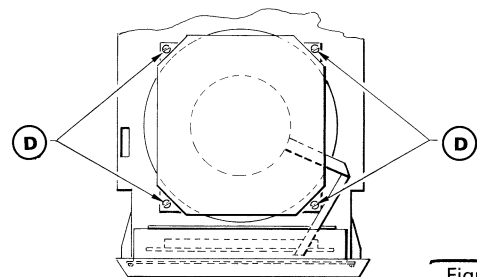

Figure 5.9
- Unscrew the four screws D — Figure 5.9